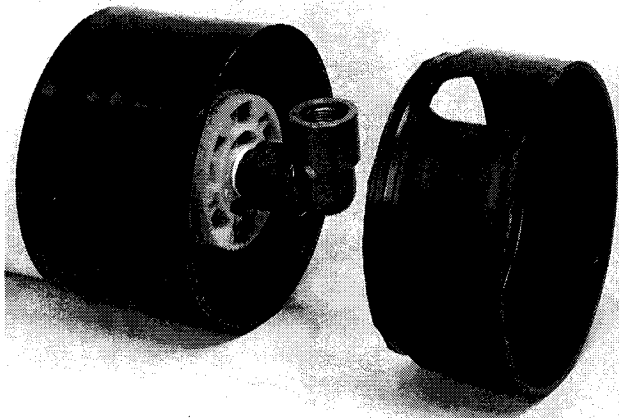

Fig. 8
3. Firmly push the base onto the tank while aligning the pipe opening in the base with the opening of the PCV ell. Thread a 3/4" Nipple (supplied separately) into the ell so that it passes through the opening in the base of the tank. Again, make sure to use thread tape and/or paste when making this connection. (Fig. 8)